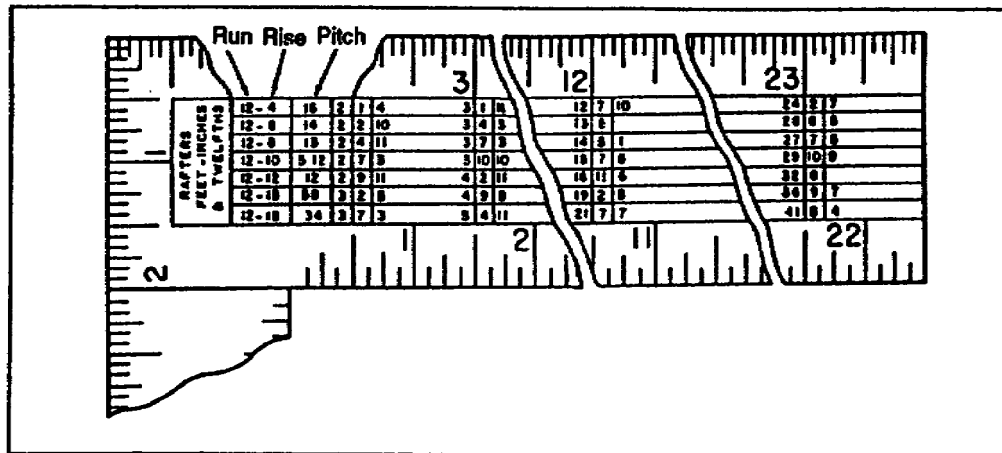
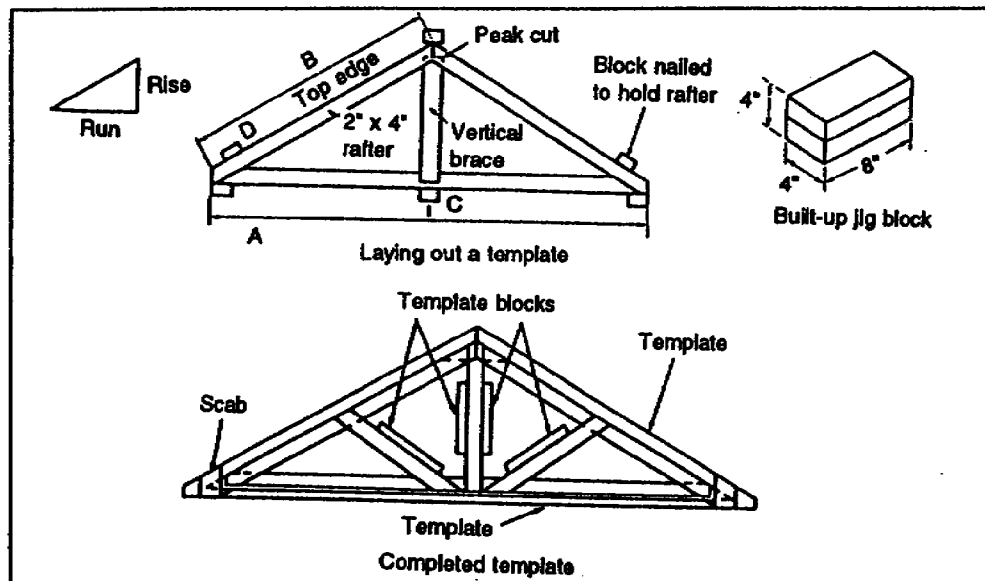
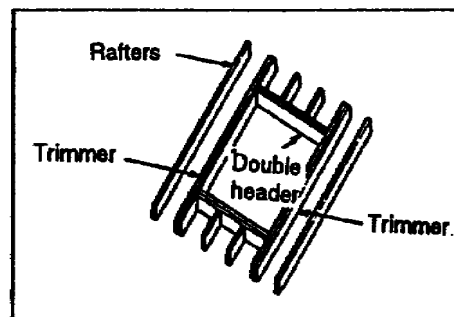

Figure 3-30. Actual lengths on the rafter table
Figure 3-31. Laying out a template
Figure 3-32. Roof opening
(2) Each set of figures under each inch division mark represents the length of a rafter per foot of run, with a rise corresponding to the number of inches over the number. For example, under the 16-inch mark appears the number 20.00 inches. This number equals the length of a rafter with a run of 12 inches and a rise of 16 inches. Under the 13-inch mark appears the number 17.69 inches, which is the rafter length for a 12-inch run and a 13-inch rise.
b. Actual Length. At the left end of the table (see Figure 3-30) are figures representing the run, rise, and the pitch of a roof
(1) The figures show that a rafter with a run of 12 and a rise of 4 has  $1/6$  pitch. A 12 run, 6-inch rise has  $1/4$  pitch. A 12 run, 8-inch rise has  $1/3$  pitch.
(3) Using rafter table method 2, assume you have a roof with a  $1/2$  pitch (or a rise of  $1/2$  the width of the building) and a run of 12 feet (see Figure 3-30). Find  $1/2$  pitch on the table. Follow the same line of figures to the right until directly beneath the figure 12. The numbers that appear beneath this figure are 16, 11, and 6, which represents 16 feet 11  $6/12$  inches. The length of the rafter required is 16 feet 11  $6/12$  inches long.
(4) When the run is in inches, the rafter table reads inches and twelfths instead of feet and inches. If the pitch is  $1/2$  and the run is 12 feet 4 inches, add the rafter length of a 12-foot run to that of a rafter length of 4-inch run (see Figure 3-30). For a run of 12 feet and  $1/2$  pitch, the length is 16 feet 11  $6/12$  inches. For a run of 12 feet and  $1/2$  pitch, the length is 5, 7, and 11. In this case, the 5 is inches, the 7 is twelfths, and the 11 is  $11/12$  of  $1/12$  (which is nearly  $1/12$  of an inch). Add the  $1/12$  to the 7 to make it 8, making a total of 5  $8/12$  inches. Add the two lengths together (16 feet 11  $6/12$  inches + 5  $8/12$  inches = 17 feet 5  $1/12$  inches)
(5) If the run of a building is over 23 feet, the table is used as follows: Using a run of 27 feet, with a  $1/4$  pitch (the framing square blade is 24 inches long), find the length for 23 feet, then find the length for 4 feet, and add the two. The run for 23 feet with a pitch of  $1/4$  is 25 feet 8  $5/12$  inches. For 4 feet, the run is 4 feet 5  $8/12$  inches. The total run for 27 feet is 30 feet 2  $1/2$  inches.
(6) The lengths that are given in the rafter table are line lengths. The overhang must be added.
(7) When the roof has an overhang, the rafter is usually cut square to save time. If the roof does not have an overhang, the rafter is cut plumb, but no notch is cut in the rafter seat.
(8) A level cut is made on the rafter long enough to extend across the plate and the wall sheathing. This type of rafter allows very little protection to the sidewalls.
**3-12. Template Use.** Rafter framing without the use of ridgeboards may be done rapidly by using a truss assembly jig or template. The template is laid out to form a pattern conforming to the exact exterior dimensions of the truss. Lay out a template as follows (see Figure 3-31).
a. Lay Out. Lay out a template as shown in Figure 3-31 and as follows:
(1) Measure and mark a straight line on a selected surface. Have the exact length of the joists that will form the truss chord. This is baseline A (see Figure 3-31).
(2) From the center of the baseline and at right angles to it lay out the centerline (C) to form the leg of a right triangle, the base of which is at half the length of baseline A, and the hypotenuse of which (B) is the length of the rafter measured as indicated (see Figure 3-31).
(3) Nail 2- by 4- by 8-inch blocks flush with the ends of baseline A and centerline C as shown in Figure 3-31. Mark the centerline on the center jig blocks.
b. Assembly. Assemble with a template as shown in Figure 3-31 and as follows:
- (1) Start the assembly by setting a rafter in the jig with the plate cut fitted over the jig block at one end of the baseline. The peak is flush with the centerline on the peak jig block. Nail a holding block outside the rafter at point D as shown in Figure 3-31.
- (2) Lay one 2- by 4-inch joist or chord in place across the base blocks.
- (3) Lay two 2- by 4-inch rafters in place over the joist.
- (4) Center one end of 1- by 6-inch hanger under the rafter peak. Center the rafters against the peak block.
- (5) Nail through the rafters into the hanger using six 8d nails.
- (6) Line up one end of the chord.
- (7) Nail through the rafter with 16d nails.
- (8) Line up the other end of the chord.
- (9) Nail as above.
- (10) Center the bottom of the hangers on top of the chord and nail with 8d nails.
**3-13. Roof Openings.** Major roof openings are those that interrupt the normal run of rafters or other roof framing. Such openings may be for ventilation, chimneys, trap-door passage, skylight, or dormer windows. Roof openings are framed by headers and trimmers. Double headers are used at right angles to the rafters, which are set into the headers in the same way as joists in floor-opening construction. Trimmers are actually double rafter construction in roof openings. Nailing steps may be added if needed. Figure 3-32 shows roof-opening construction.